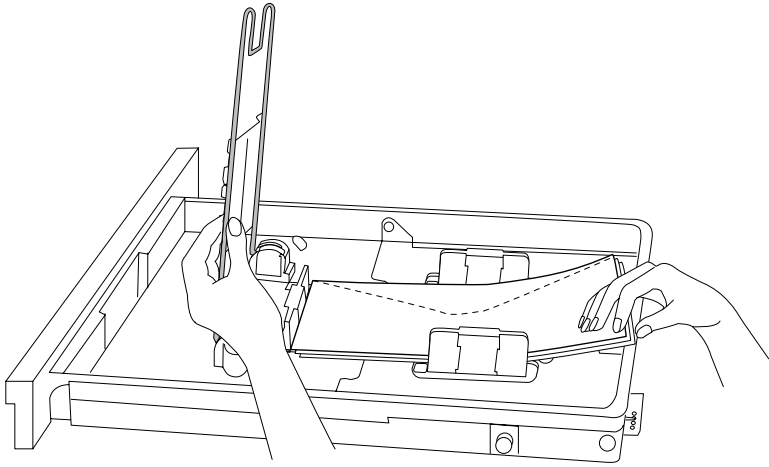

Fig. 8.8 *Load the envelopes*
4. Lift the stacker arm and load 30 or fewer envelopes printing-side up, so that the flap side will be on the left when the envelope is pulled into the printer (fig. 8.8).